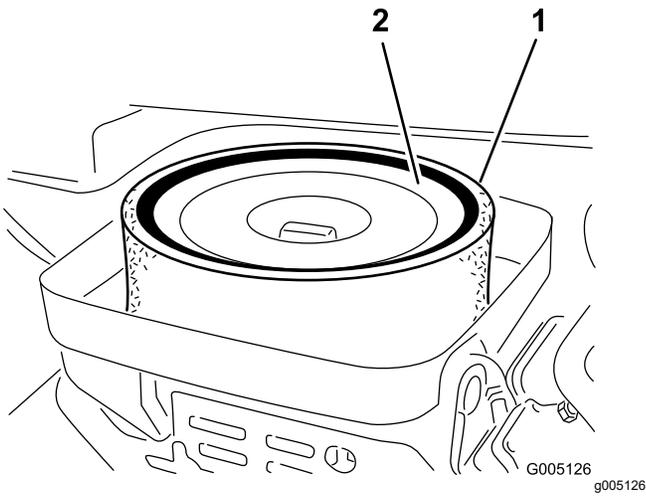

Figure 38
3. Remove the wing nut securing the elements to the air-cleaner body (Figure 38).
4. If the foam element is dirty, remove it from the paper element (Figure 38). Clean it thoroughly, as follows: